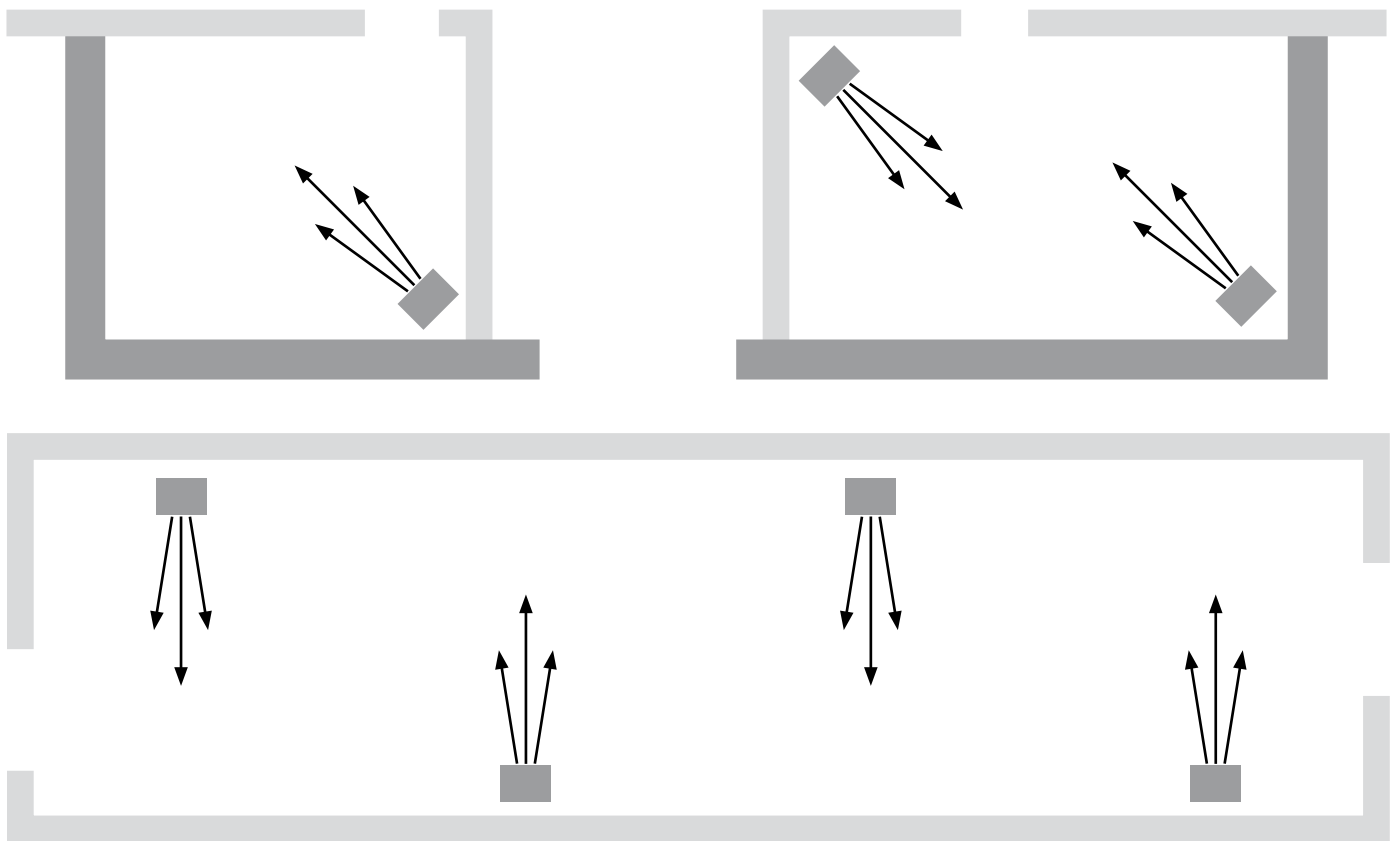

Fig.16
- for better heat distribution, in case install with multiple machines, create streams alternating hot air (see Figure 16);